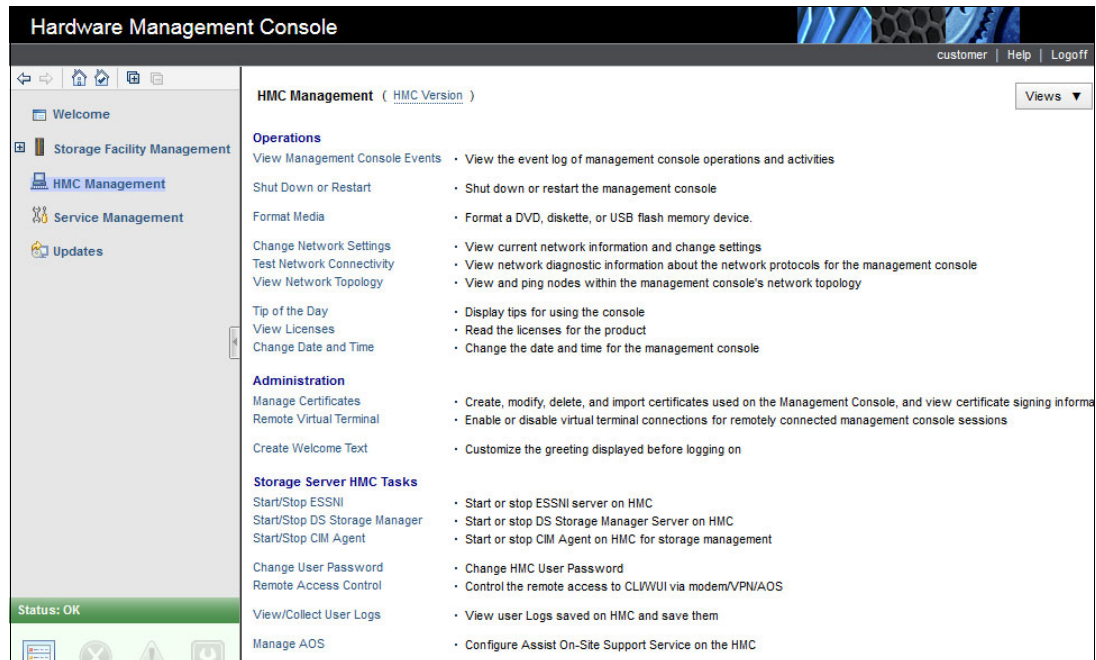

Figure 8-10 Web UI HMC Management window
- In the HMC Management window, select **Change Network Settings**, as shown in Figure 8-10.